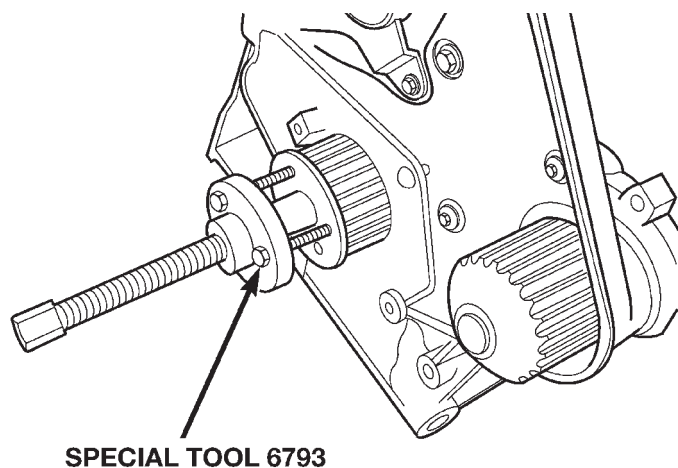

Fig. 82 Crankshaft Sprocket—Removal
- (1) Disconnect negative cable from battery.
- (2) Remove Timing Belt. Refer to procedure in this section.
- (3) Remove Oil Pan. Refer to procedure in this section.
- (4) Remove Crankshaft Sprocket using Special Tool 6793 and insert C-4685-C2 (Fig. 82).